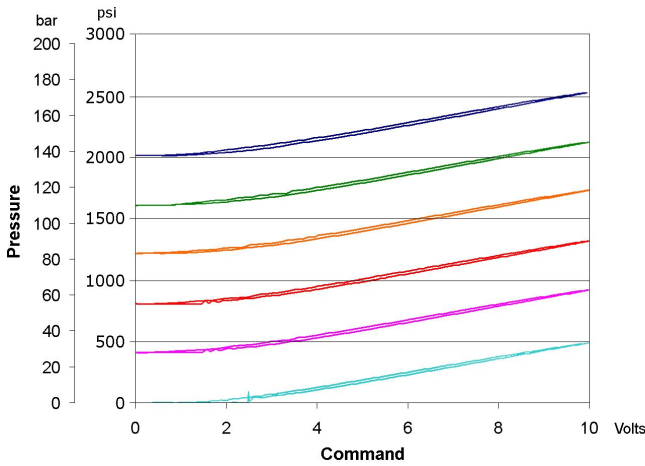

Figure 5.
- Pressure at port 4 will hydraulically bias, or boost, the valve setting. (This feature allows the maximum reduced pressure to be increased if the available adjustment range(s) is acceptable for the application.) (See Figure 5.)